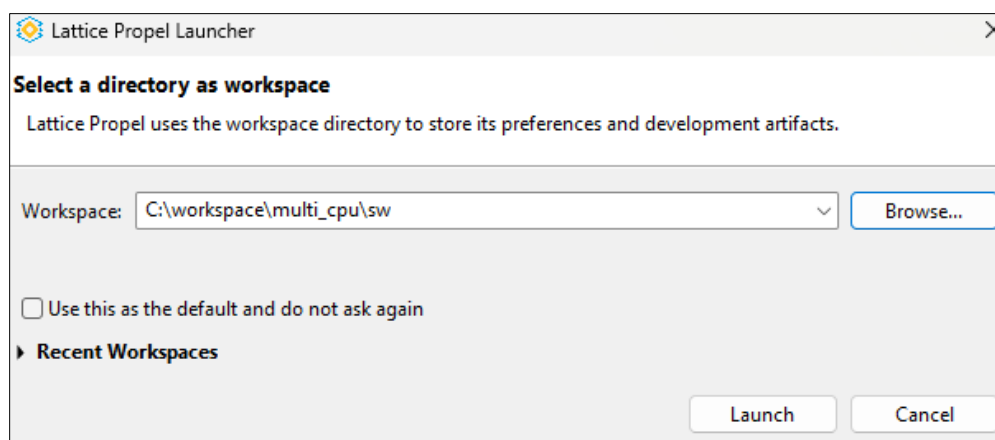

Figure 4.7. Lattice Propel SDK – Select Workspace and Launch
- c. Click **Launch** to open the SDK environment (Figure 4.7).